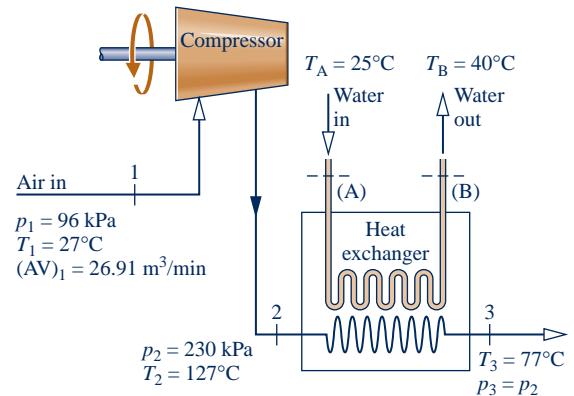

Fig. P6.114
6.114 Air as an ideal gas flows through the compressor and heat exchanger shown in Fig. P6.114. A separate liquid water stream also flows through the heat exchanger. The data given are for operation at steady state. Stray heat transfer to the surroundings can be neglected, as can all kinetic and potential energy changes. Determine